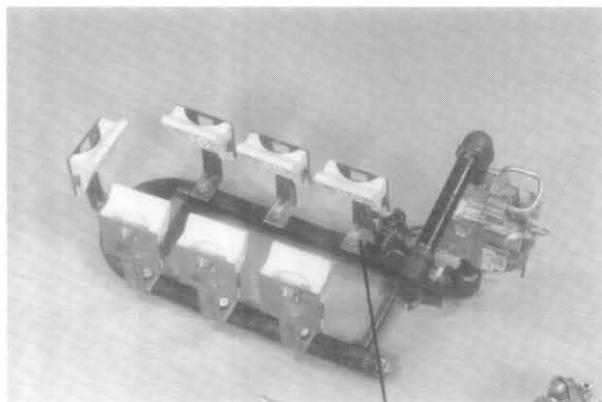

Fig. 12
- 3) Using a 1/2 in. box end wrench or socket and ratchet, remove the 2 brass orifices that hold the target bracket to the burner manifold. See Figure 12.